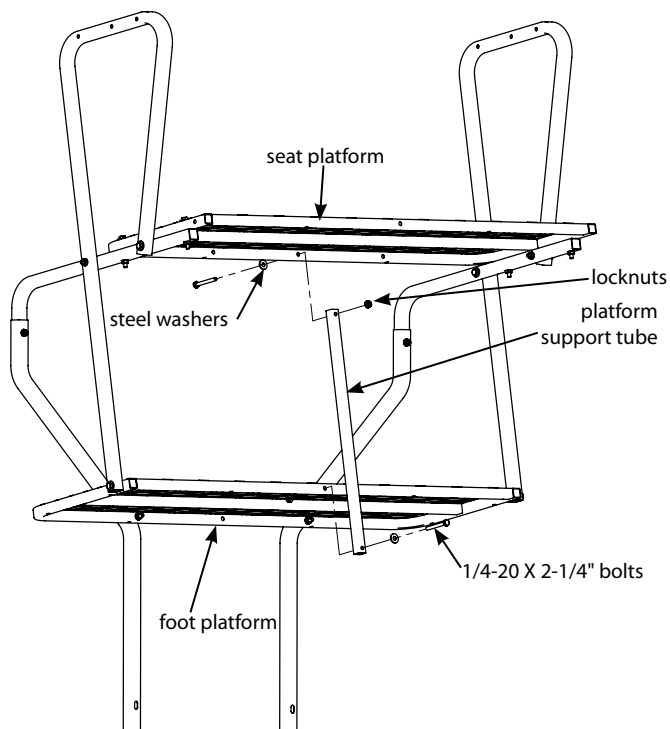

Figure 3
5. Attach the platform support tube (411031) to the foot platform and seat platform using (2) provided 1/4-20 x 2-1/4" bolts, locknuts and steel washers. **SEE FIGURE 3.**